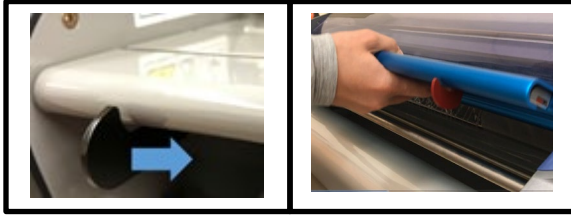

Figure 12
**Step 1:** Lift Safety Shield and remove the feed table by pressing inwards on the table latches and lifting up and out. (Fig. 12)